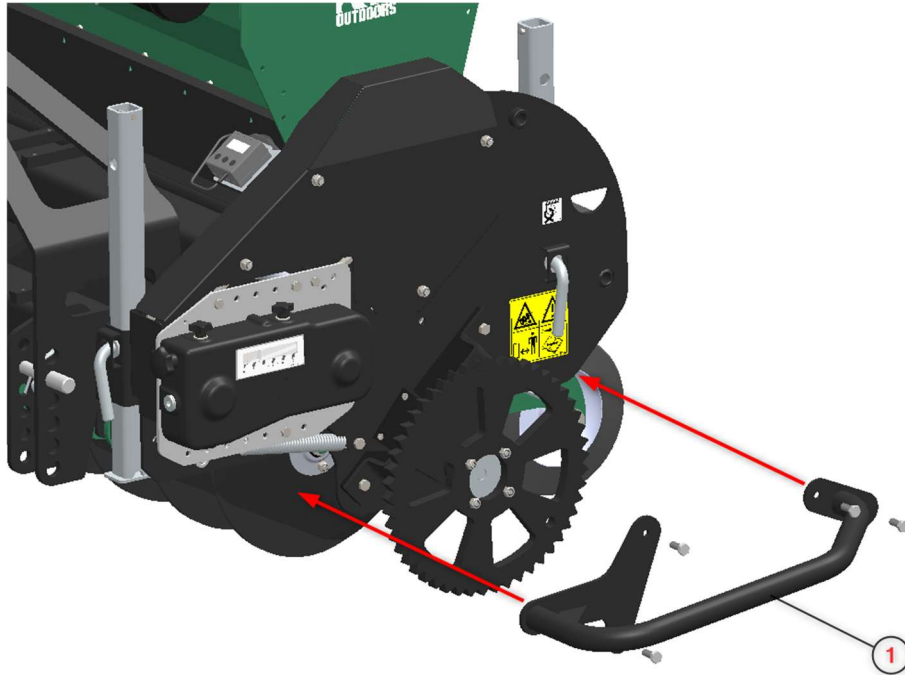

Fig. 3
6. Assemble the protection guard (1). (Fig.3)